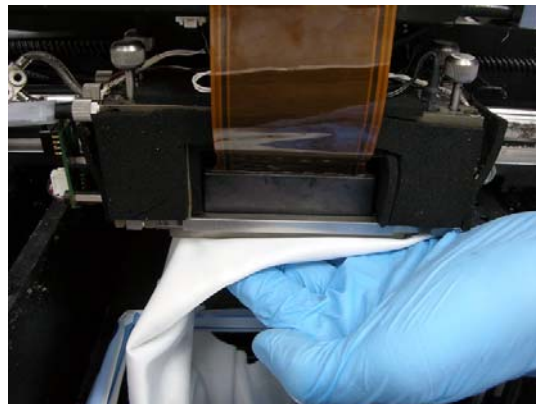

Figure 6-33: Cleaning the heads
- Clean the orifice plates, with a back-and-forth motion (see figure 6-33). Use the mirror to make sure that you have removed all of the residue material.